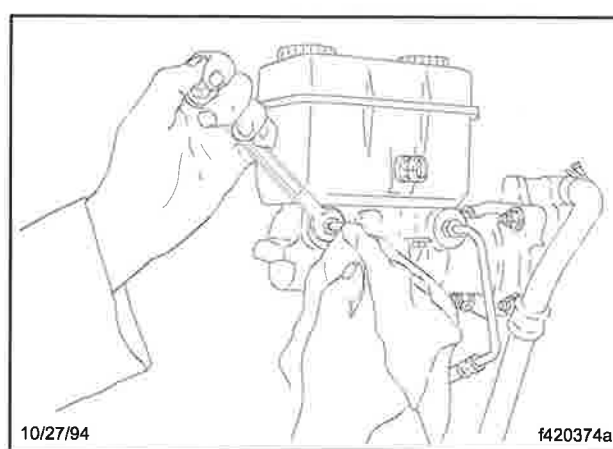

Fig. 18, Loosening the Fitting at the Front Outlet Port
- 1.7 Using a wrench and a rag to absorb leaking brake fluid, loosen the fitting at the front outlet port on the master cylinder. See Fig. 18. Loosen the fitting about one full turn.